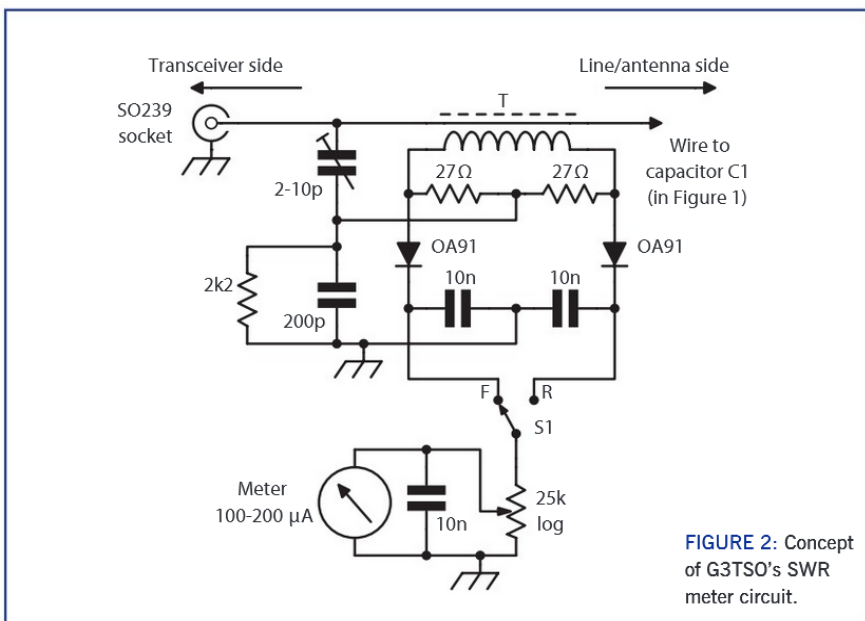

FIGURE 2: Concept of G3TSO's SWR meter circuit.
The ATU's SWR meter circuit was based on the G3TSO design [1] shown in **Figure 2**. To summarise, this circuit uses a current-sampling transformer bridge and is suitable for the 160m to 10m bands. The current transformer (T) used a FT50-43 type ferrite ring of about 12mm diameter. A short length of coaxial cable was passed through the ferrite core forming the primary winding, with a secondary winding of 18 turns wound onto the ferrite ring core. The braid of the cable was earthed at one end to form an electrostatic screen.